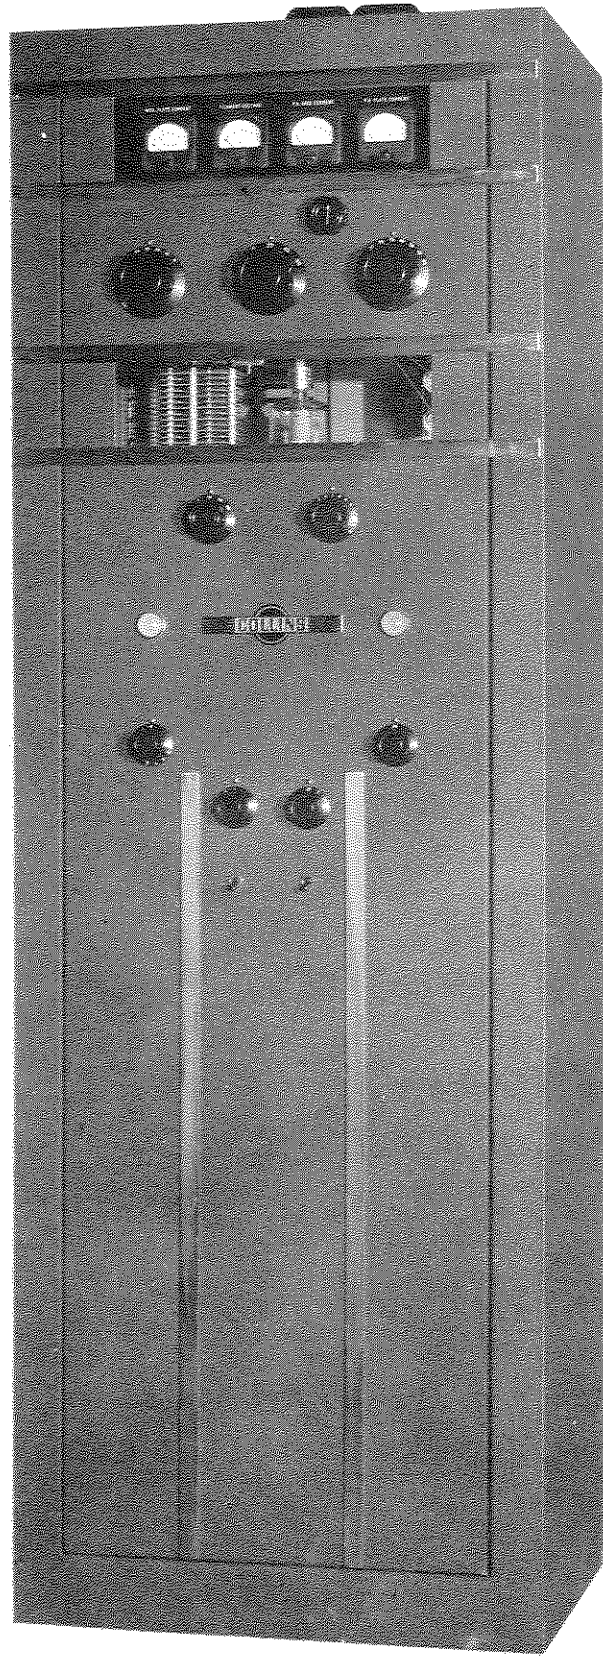
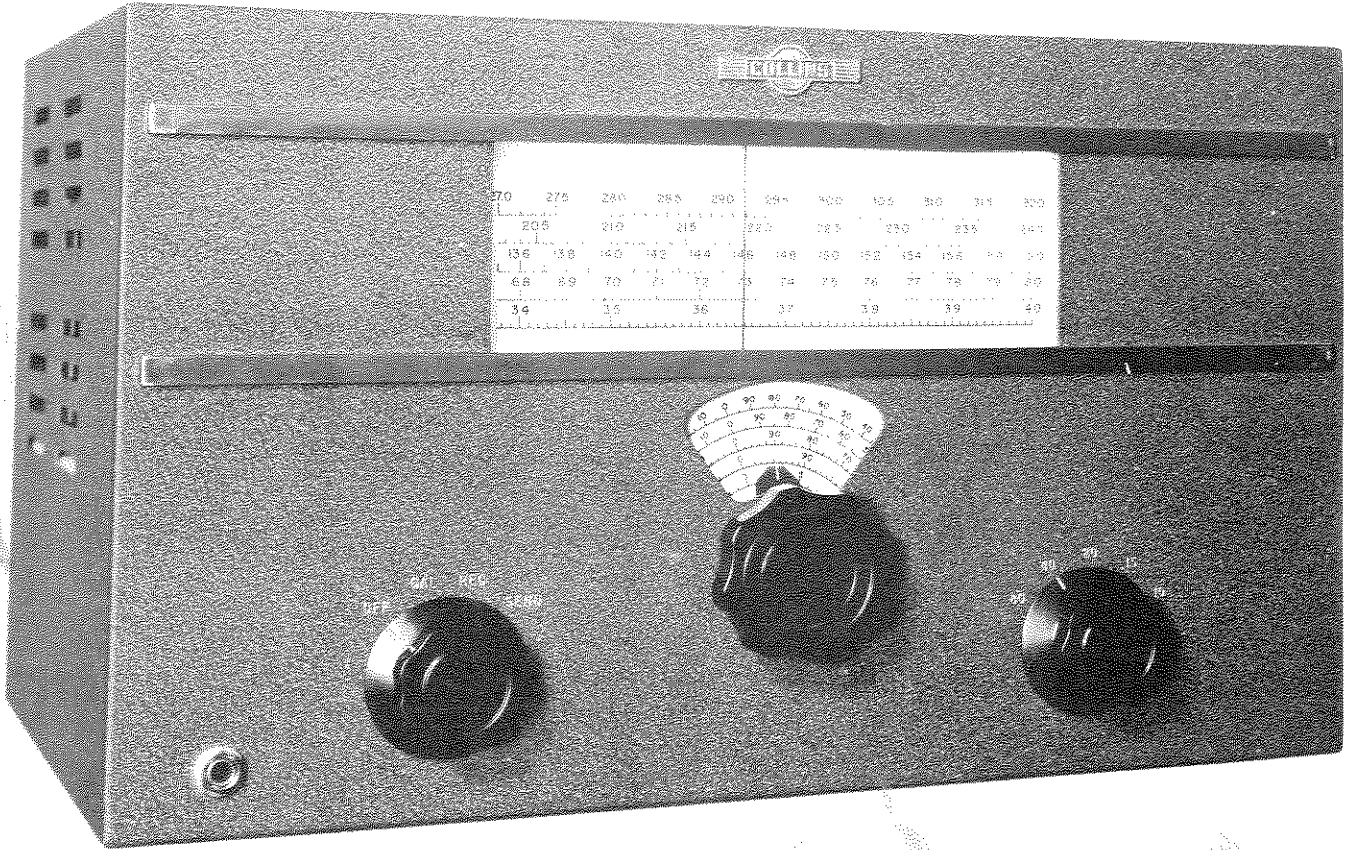

FIGURE 1-2 MODEL 30K TRANSMITTER
FIGURE 1-3 MODEL 310A EXCITER
(1) 30K TRANSMITTER UNIT. - 355 lbs.
(2) 310A EXCITER UNIT. - 50 lbs.
c. FINISH. - Both the transmitter unit, figure 1-2, and the exciter unit, figure 1-3, are finished in St. James Gray wrinkle finish with polished stainless steel trim.